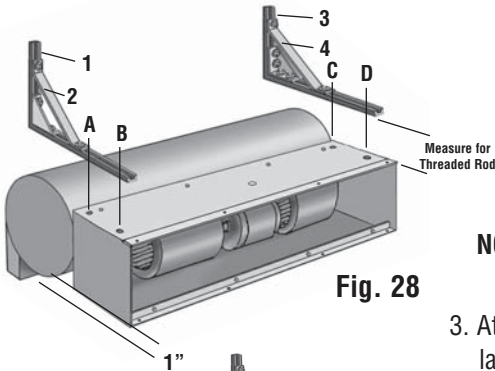

Fig. 28
2. With the air curtain temporarily in place (1" above the top of the doorway opening and centered), temporarily place the wall brackets so they align with the top mounting holes A, B, C & D on the unit. Mark the mounting holes 1, 2, 3 & 4 on the wall. (See Fig. 28) Then measure the distance from the bottom of the brackets to the top of the unit. This measurement will be used to cut the threaded rods.